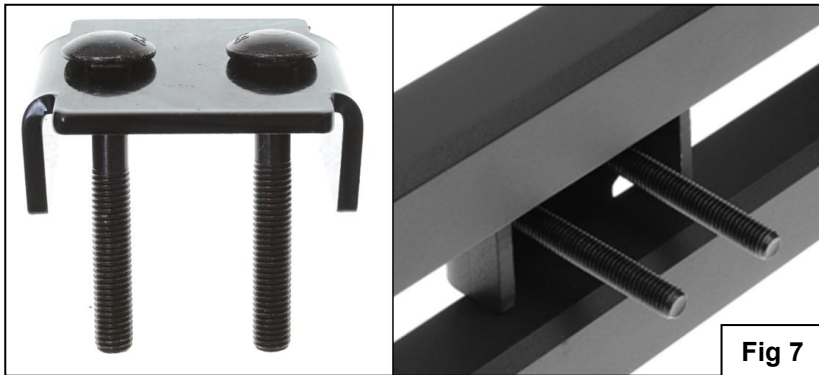
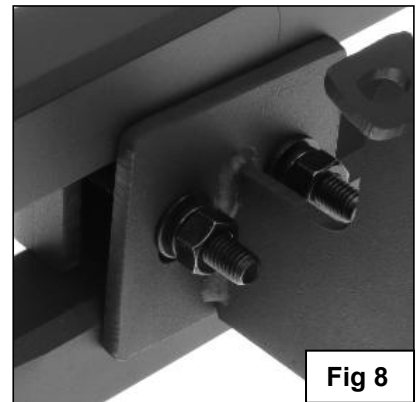

Fig 7
Fig 8
4. Repeat Steps 2 & 3 to install (3) Mounting Brackets on the remaining driver/left side mounting locations along the body panel.
5. Select the Driver Side Bar. Slip (2) M8X1.5-75 Carriage Bolts into each 2-Hole Support Brackets ,and insert the 2-Hole support bracket into the Driver Side Bar.**(Fig 7)**. Carefully position the Bar onto the (4) Mounting Brackets. **IMPORTANT: Do not slide the Bar on the Brackets or damage to the finish may result.** Attach the Driver Side Bar to the Mounting Brackets with (2) M8 Hex Nuts,(2)M8 lock washers and (2)9x16x1.6mm flat washers, **(Fig 8)**. Do not tighten hardware.